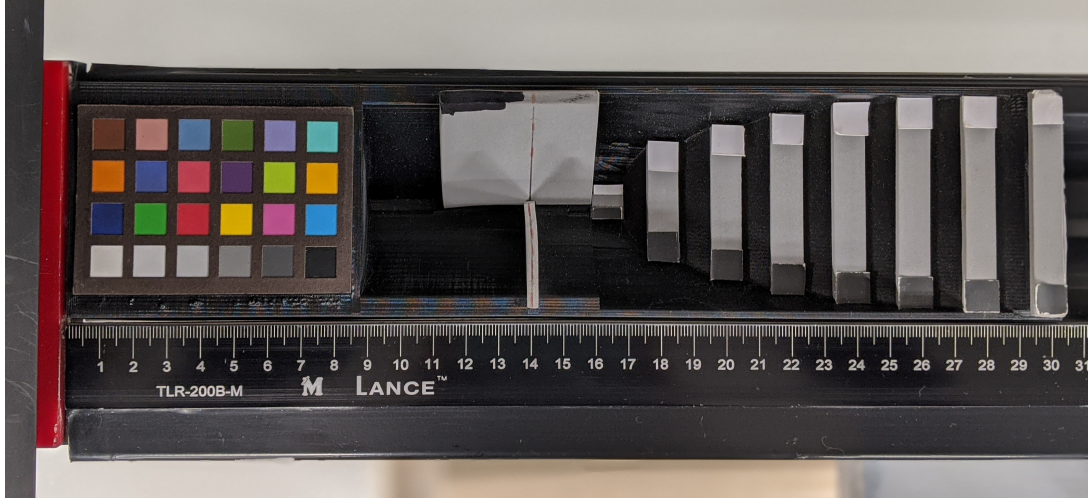

Figure 25: Color standard in track in correct orientation.
1. Place the 3D calibration standard on track as shown (Figure 25). Be sure to use the XRite Color checker 2019. The color squares must be oriented as pictured below, butted against the red reflection bar.